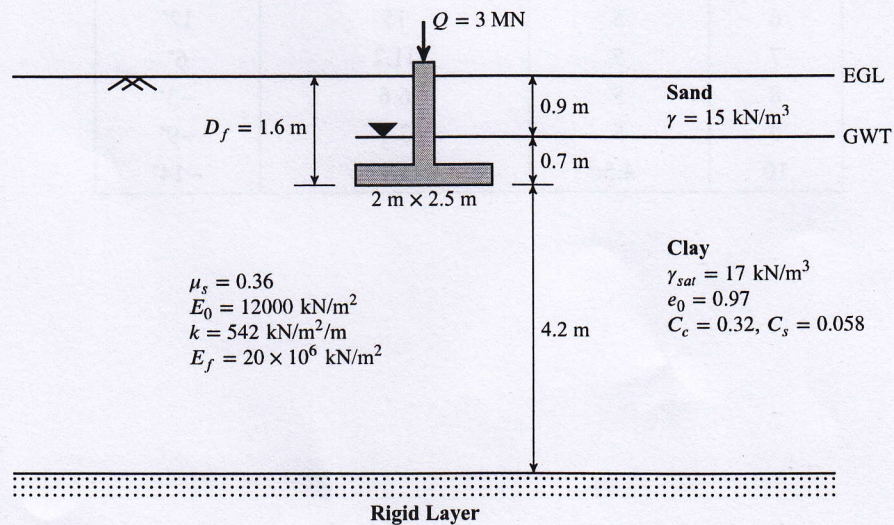

Figure 5
5. (a) Determine the immediate settlement of the individual shallow foundation as shown in Fig. 5 using the improved relationships. The thickness of the foundation is 0.3 m. [10]
- (b) Determine the primary consolidation settlement of the clay layer below the individual shallow foundation as shown in Fig. 5. The clay layer is over consolidated and $\sigma_c = 120 \text{ kN/m}^2$. [10]